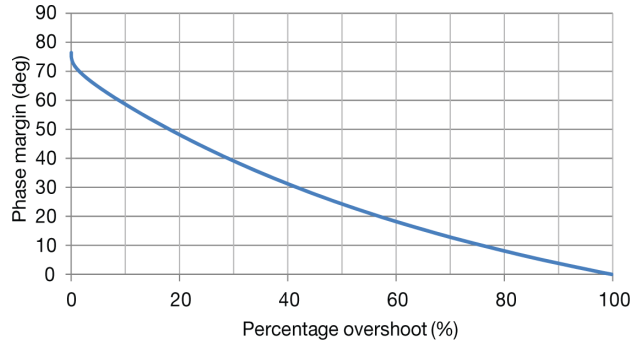

Figure 50. Stability – phase margin vs. percentage overshoot
R_F , R_1 , R_{iso} and C_L = the op amp feedback network and load. Other op amp topologies will have different feedback networks; however, the test circuit will be the same for most cases. **Figure 50** shows the exception to the rule (multiple feedback).
- Use percentage overshoot to determine phase margin using Figure 50